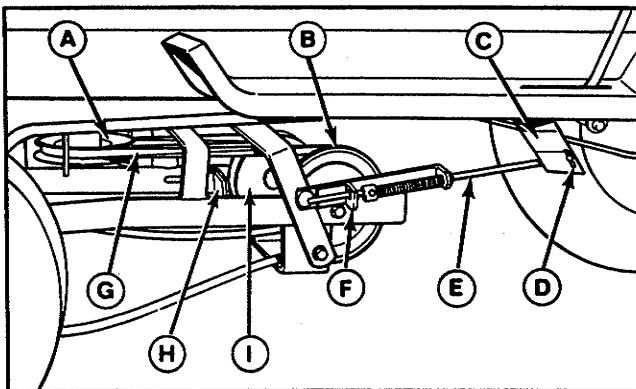

Figure 5. Install PTO Rod & Belt
6. Slip the belt (G, figure 5) onto the PTO pulley (A) as shown in figure 5. Loosen the PTO pulley belt stops if necessary. If more belt slack is needed, loosen the capscrew and move the brake pad (H) forward to allow forward movement of the flat idler pulley (I). Refer to figure 26 (page 15) for the belt pattern.
7. Attach the PTO rod (E, figure 5) to the tractor PTO lever (C) (in hole marked "ST") with the spring clip (D).
2. Disconnect the PTO rod from the tractor PTO lever by removing one spring clip (D, figure 5). Store the spring clip in the PTO rod.
3. Remove belt from the tractor PTO pulley (G, figure 5). Loosen belt stops if necessary.
- a. Points on PTO rod that contact PTO rod guide (see figure 5);